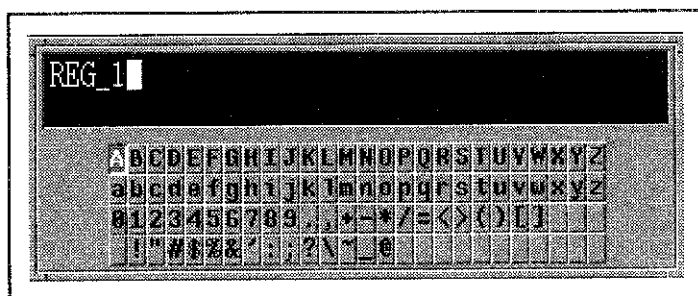

Figure 7-12 Label Window Display
- ① Press the **[SAVE]** to call the save menu. (Refer to section A.4.)
- ② Press the **{STORE FILE}** to call the store file menu.
- ③ Press the **{NAME↑}**, **{NAME↓}** to select a desired file name.
- ④ Press the **{EDIT NAME}** to display the label window (Figure 7-12) and calls the character editing menu.
- ⑤ Character menu